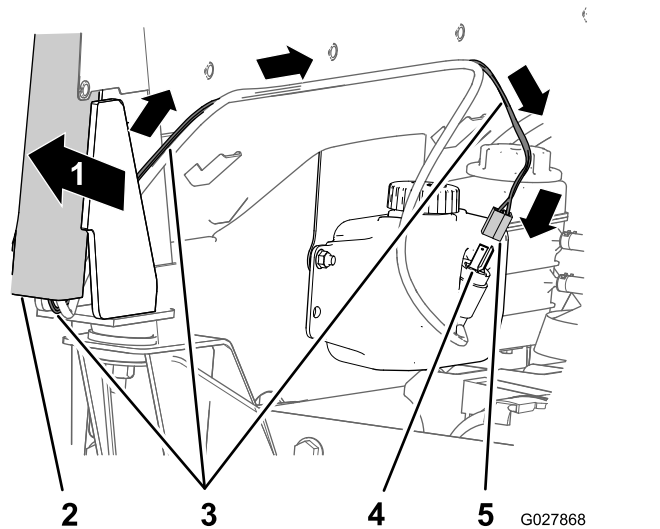

Figure 28
- Route the wire harness for the washer pump across the back of the cab, and aligned to the 2-blade connector in the washer-pump motor (Figure 28).